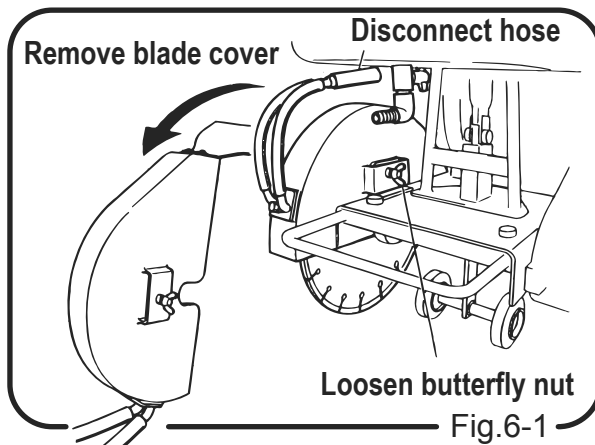

Fig.6-1
- a. As shown in Fig.6-1, disconnect water pipe at the nipple of water tank bottom.